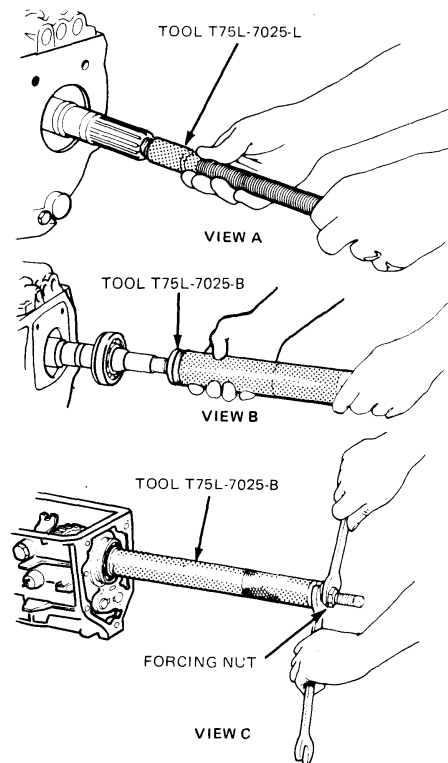

FIG. 13 Installing Output Shaft Bearing
11. Install the output shaft bearing using tools as shown in Fig. 13.